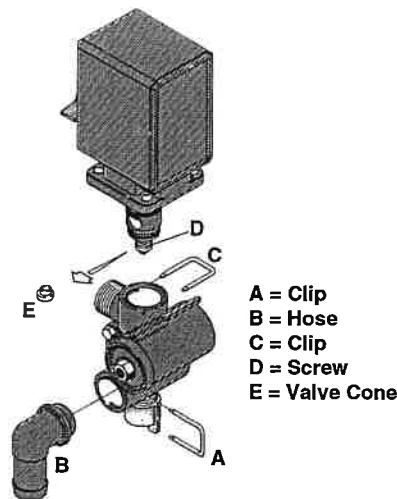

Fig 40
- 1 Cautiously remove the pressure equalization device clip (A Fig 40) and pull out the hose (B Fig 40). When the housing is drained, there should be no liquid flow through the pressure equalization device. If there is any leakage, the valve cone (E Fig 40) must be changed.
- 2 Remove the clip (C Fig 40) and lift the motor housing off the valve housing.
- 3 Then unscrew the screw (D Fig 40) and replace the valve cone (E Fig 40).